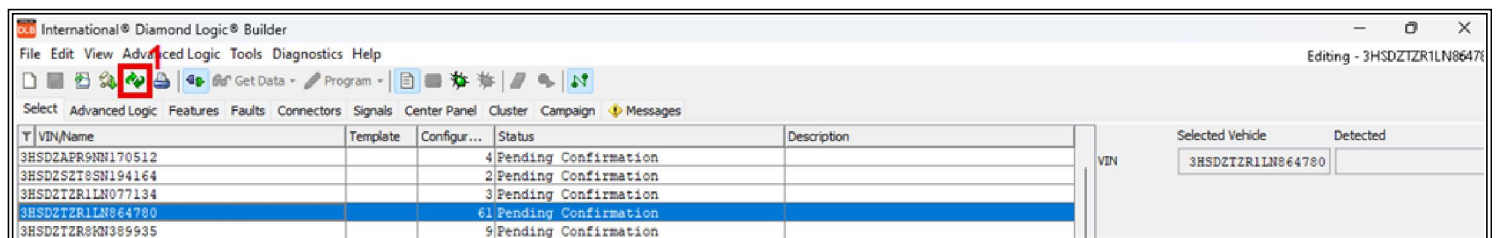

Figure 1: DLB Select Tab
2. With the correct VIN selected, hit the update all button (Figure 1, Item 1).